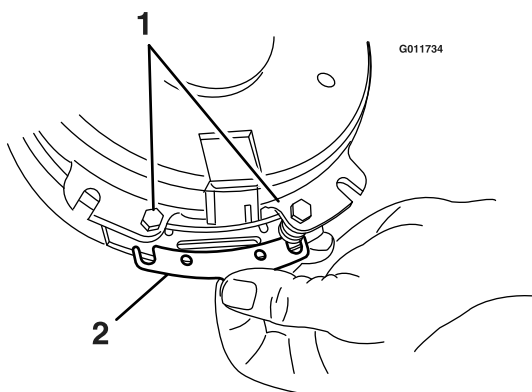

Figure 32
- A. Loosen both brake mounting bolts one-half to one full turn (see Figure 32).